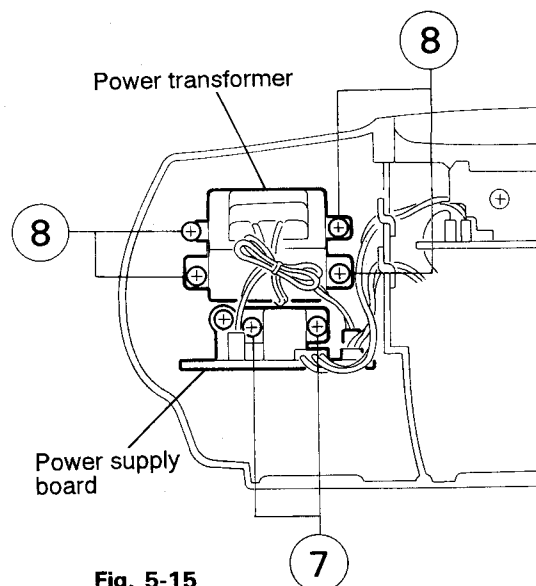

Fig. 5-15
■ Removing the power transformer and power supply board (See Fig. 5-15)
2. Remove the two screws (7) retaining the power supply board.
3. Remove the four screws (8) retaining the power transformer.